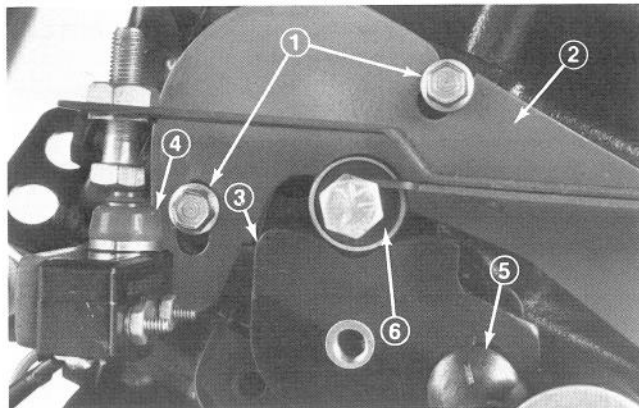

Figure 66
4. With engine OFF, loosen nut on carriage bolt and allow bearing to locate cam (Fig. 66). Carefully tighten nut on carriage bolt.
5. Loosen screws to allow neutral device bracket to move; but not freely (Fig. 66). Adjust neutral device bracket so that $40 \pm$ in-lb of torque on control lever just starts to rotate lever. Tighten screws.